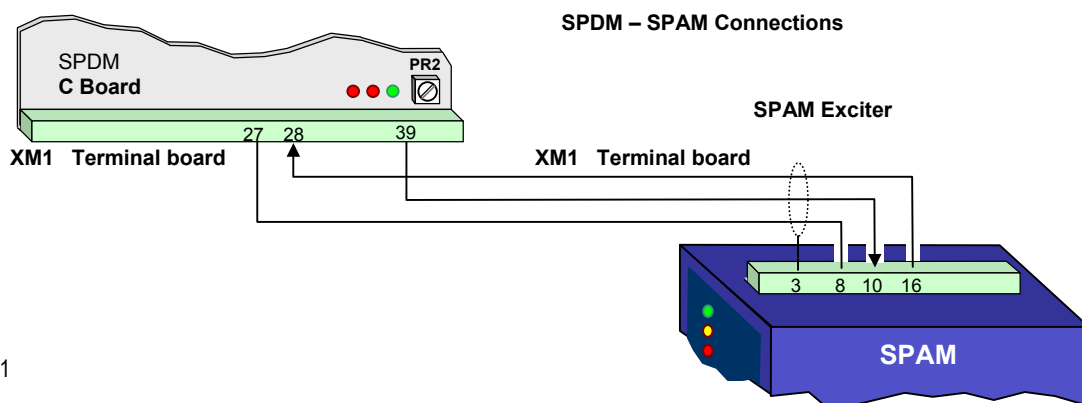

Figure C3.7-1
4. to do the connection with shielded cable according the figures C3.7.1, C3.7.2 e C3.7.3.